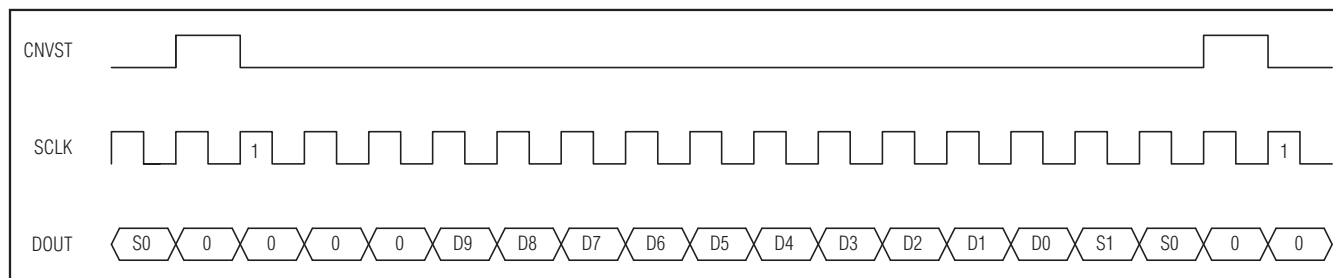

Figure 17. DSP Interface—Continuous Conversion
The MAX1076/MAX1078 can also be connected to the TMS320C54_ by using the data transmit (DX) pin to drive CNVST and the CLKX generated internally to drive SCLK. A pullup resistor is required on the CNVST signal to keep it high when DX goes high impedance and 0001hex should be written to the DXR continuously for continuous conversions. The power-down modes may be entered by writing 00FFhex to the DXR (see Figures 17 and 18).
sions, idle CNVST high and pulse it low for the entire conversion. The ADSP21_ _ STCTL and SRCTL registers should be configured for late framing (LAFR = 1) and for an active-low frame (LTFS = 1, LRFS = 1) signal. This is also the best way to enter the power-down modes by setting the word length to 8 bits (SLEN = 1001). Connect the V_L pin to the ADSP21_ _ supply voltage when the MAX1076/MAX1078 are operating with a supply voltage higher than the DSP supply voltage (see Figures 17 and 18).